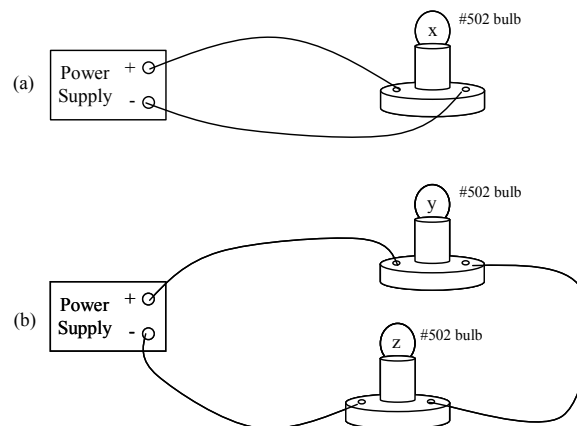

Figure 4: Comparing a one and two bulb circuits
The circuit shown in *Figure 4(b)* is called a *series* circuit because the two bulbs are connected one after the other rather than side by side. How will this circuit behave as compared to the single bulb circuit that you just investigated and shown in *Figure 4(a)*? In particular, for the same power supply voltage (5V), will the current in the two-bulb series circuit be the same as in the one-bulb circuit, or not? Will the first bulb somehow “use-up” some of the current so the second bulb gets less, or will the current through both bulbs be the same?
Based on your results from the previous section draw three arrows alongside each wire in *Figure 4(a)* that correctly illustrates current in this circuit. If your earlier prediction was correct, this will be the same as before, but if your earlier prediction was incorrect, modify the arrows so they are consistent with your experimental results. As before, let the direction of the arrows indicate the current’s direction and the relative lengths of arrows depict the current’s strength.
In a similar fashion draw three arrows alongside each of the three wires in *Figure 4(b)* to depict your prediction as to how current behaves in this circuit. In particular, these nine arrows should reflect two different comparisons. Firstly, arrow lengths should reflect how you think the current strength changes from one wire to the next within this circuit. Secondly, the arrow lengths should also reflect how you think the current in this circuit compares to the current in the single bulb circuit.
- Now construct the two bulb circuit of *Figure 4(b)*. Turn the power supply on, still set at 5V, and look at the bulbs.
- Based on your observations rank the three bulbs (notice that each is assigned a letter in *Figure 4* from brightest (1) to least bright (3) in *Table 2* below. If any of the bulbs have the same brightness give them the same ranking. Also rank the current in each bulb's filament from most current (1) to least current (3). If any of the bulbs have the same current give them the same ranking.
Infer from these observations how current behaves through the entire circuit, and how current in the two bulb circuit compares to current in the one bulb circuit. Was your prediction, as depicted by the arrows you drew in *Figure 4*, correct? If not, use a different colored pen or pencil and draw a new set of arrows on *Figure 4* that is consistent with your observations and describe in writing the modifications you had to make.